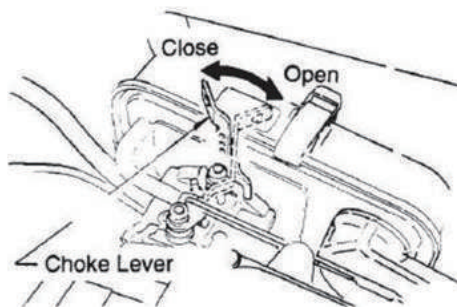

Fig 7
3. Close the choke lever (Fig 7) and move the throttle lever to the **FULL OPEN** position. Turning the choke lever 90 degrees clockwise closes the choke. In cold weather, start the unit with choke fully closed. In warm weather or when the engine is warm, the unit can be started with choke halfway or completely open.
5. If engine fails to start, move the choke lever (Fig 7) to the half open position to avoid flooding.